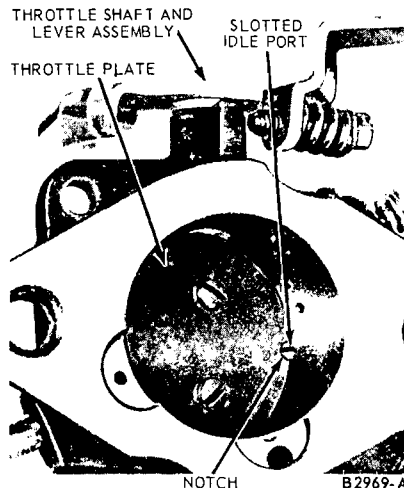

FIG. 12—Throttle Plate Installation
1. Install the throttle shaft and lever assembly (Fig. 11) in the throttle body flange. Position the throttle plate on the throttle shaft with the notch in the plate aligned with the slotted idle port (Fig. 12) in the throttle body flange. Install the throttle plate attaching screws snug, but not tight. Move the shaft back and forth and rotate it to be sure the throttle plate does not bind in the flange bore. Reposition the plate if necessary. Tighten the screws and stake (or peen) the screws in place.